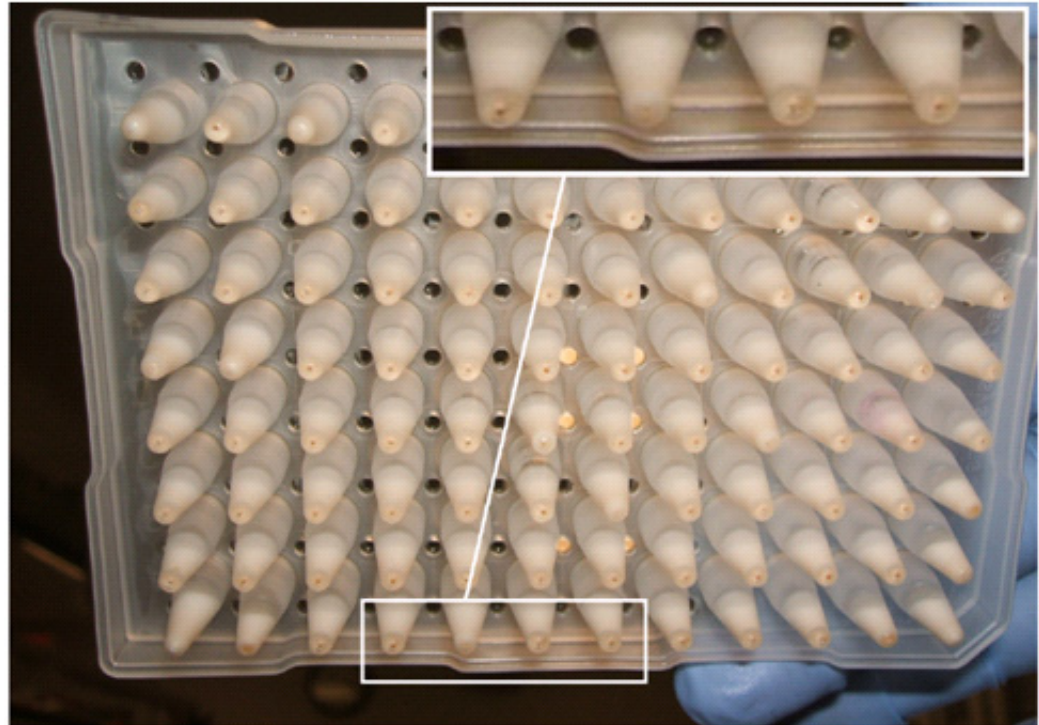

Figure 28 Broken emulsions.
3. After the ePCR Program finishes, inspect the bottom of the reaction plate for beads that fell out of the emulsion. Beads appear as amber-colored specks at the bottom of a well. A small number of beads may fall out of emulsion and appear as small brown flecks at the bottom of a well. Applied Biosystems does not recommend any further processing of emulsions that have more than 3 wells of broken emulsion, where aqueous phase appears at the bottom of a well (see Figure 28).